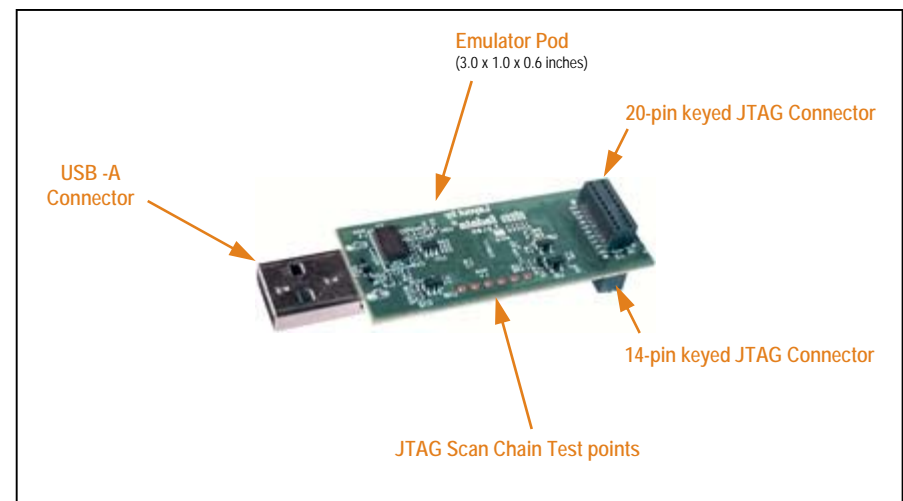

FIGURE 1—USB100 JTAG Emulator (angled view)
2. Then attach the other end of the USB cable (Female-A connector) to the USB-A connector of the **USB100** Emulator (see Figure 1).
4. You can now attach the emulator's JTAG cable assembly (the 14-pin, 2x7 JTAG connector or the 20-pin, 2x10 JTAG connector shown in figure 1) to the corresponding header on the target board. Make sure the target board is **not powered** when connecting!